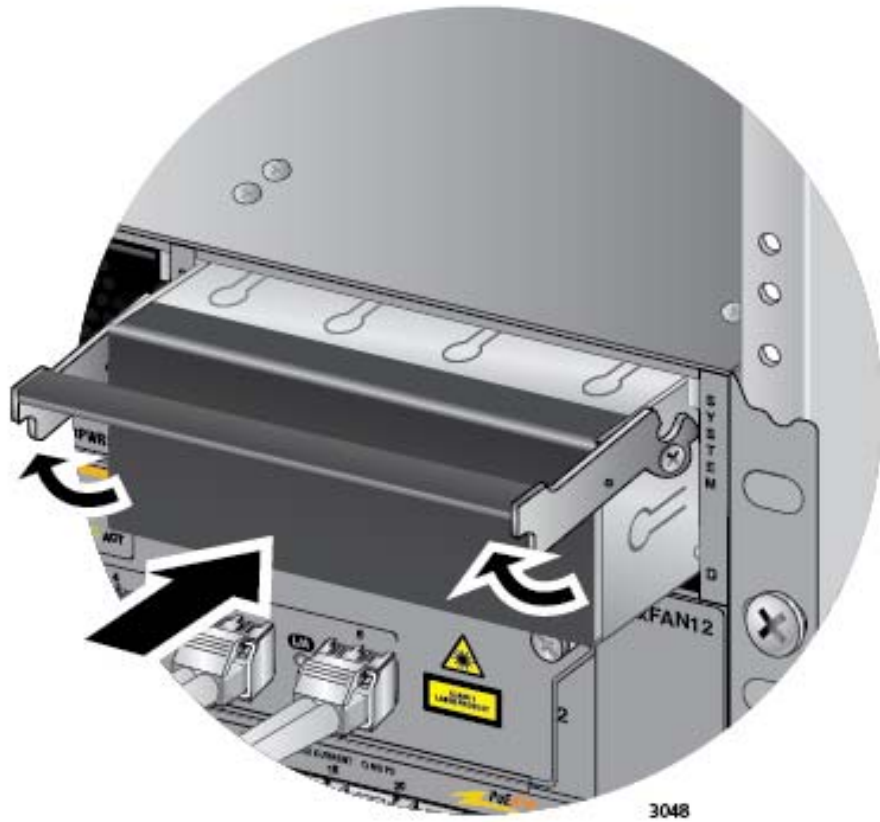

Figure 148. Installing a Blank Power Supply Slot Cover
5. Place the locking handle on the slot cover in the up position and slide the cover into the empty power supply slot, as shown in Figure 148 on page 236.